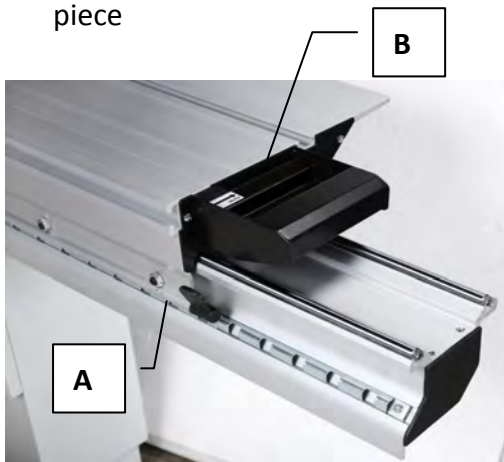

Figure 4-6.1
The sliding table is locked and unlocked by lever **A** (Fig. 4-6.1)
1. Move the frame for your desired position with handle **B** (Fig. 4-6.1)
2. Lock knob **A** (Fig. 4-6.1) for fixing.